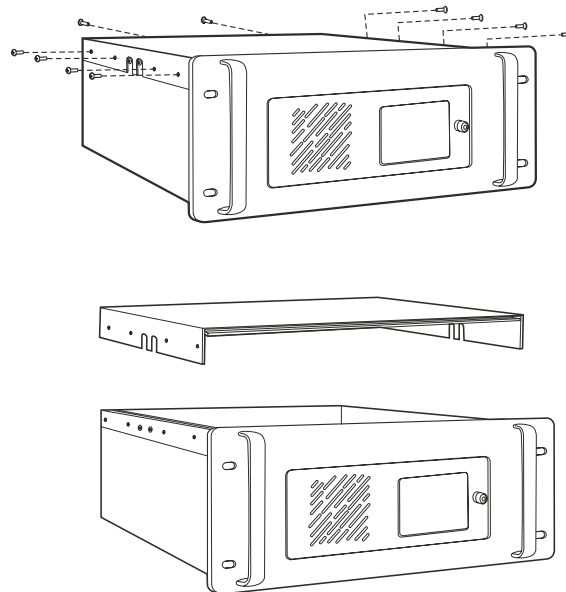

Figure 38. Removing the CC1 Top Cover
2. Remove the top cover of the CC1. Refer to Figure 38.